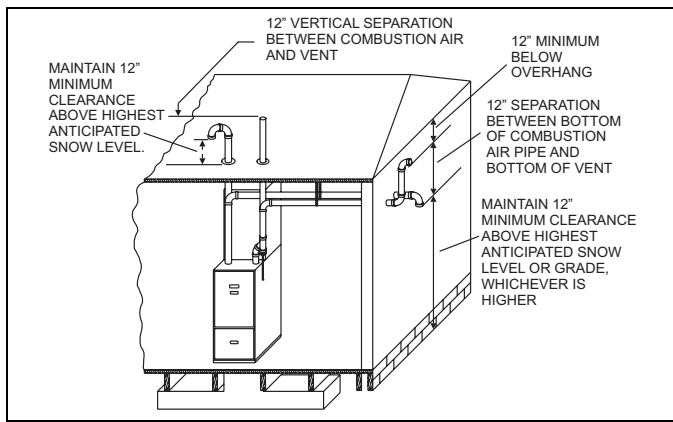

FIGURE 21: Termination Configuration - 2 Pipe
- Sealed combustion air systems must be installed so the vent and the combustion air pipes terminate in the same atmospheric zone. Refer to Figures 21, 22, 23, 24 & 25.
This installation requires combustion air to be brought in from outdoors. This requires a properly sized pipe (shown in Figures 21, 22 & 23) that will bring air in from the outdoors to the furnace combustion air intake collar on the burner box. The second pipe (shown in Figures 21, 22 & 23) is the furnace vent pipe.